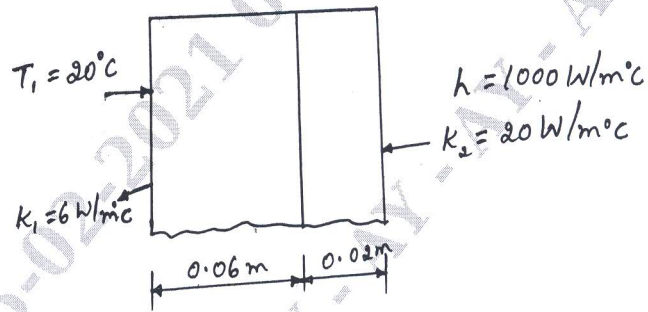

Fig Q10(b)
- b. Determine the temperature distribution through the composite wall subjected to convection heat loss on the right side surface with convective heat transfer coefficient as shown in Fig Q10(b). The ambient temperature is -5°C .